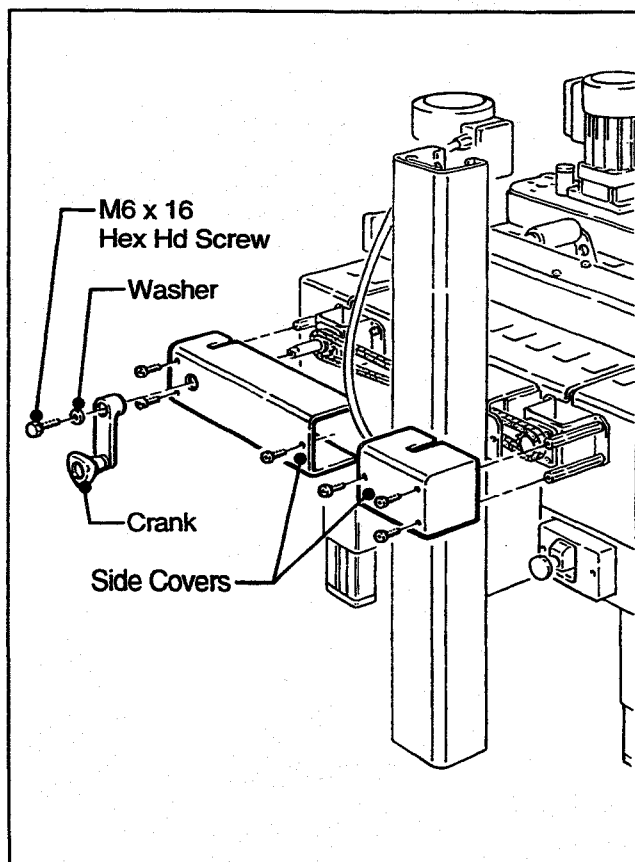

Figure 5-5 – Crank/Chain Guards
4. Remove M6 x 16 hex hd screw, special washer and drive belt width adjustment crank. Figure 5-5.
5. Remove side covers (2) from each side of machine bed. Figure 5-5.